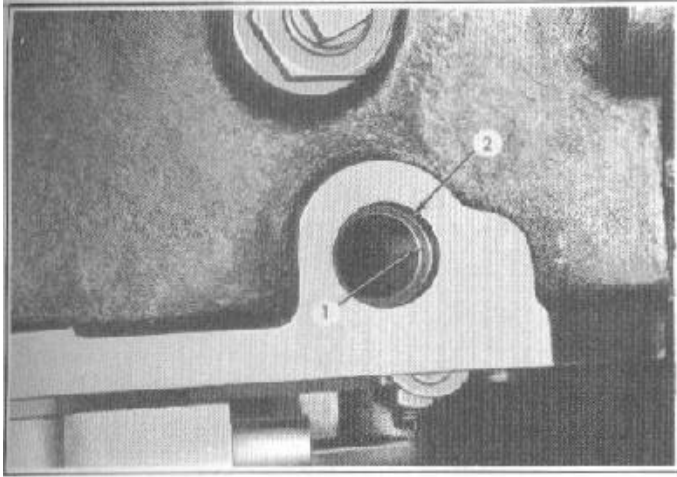

FIGURE 52
1. Install a new seal in case counterbore (2), Figure 52, with the numbered face